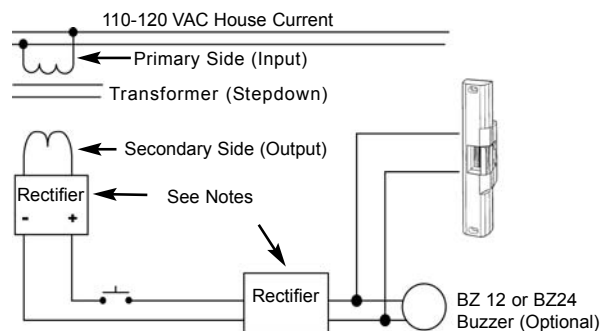

Figure 10.
4. If required, run new wiring to door frame mounting hole. See figure 10 for typical wiring installations. Refer to wiring chart below for correct wire size. (Total wiring length includes routing to door-release push button).
For DC operation, to obtain an audible signal when Electric Strike is energized, install buzzer type BZ-12 for 12VDC operation, or BZ-24 for 24VDC operation (purchased separately), as illustrated in figure 10.